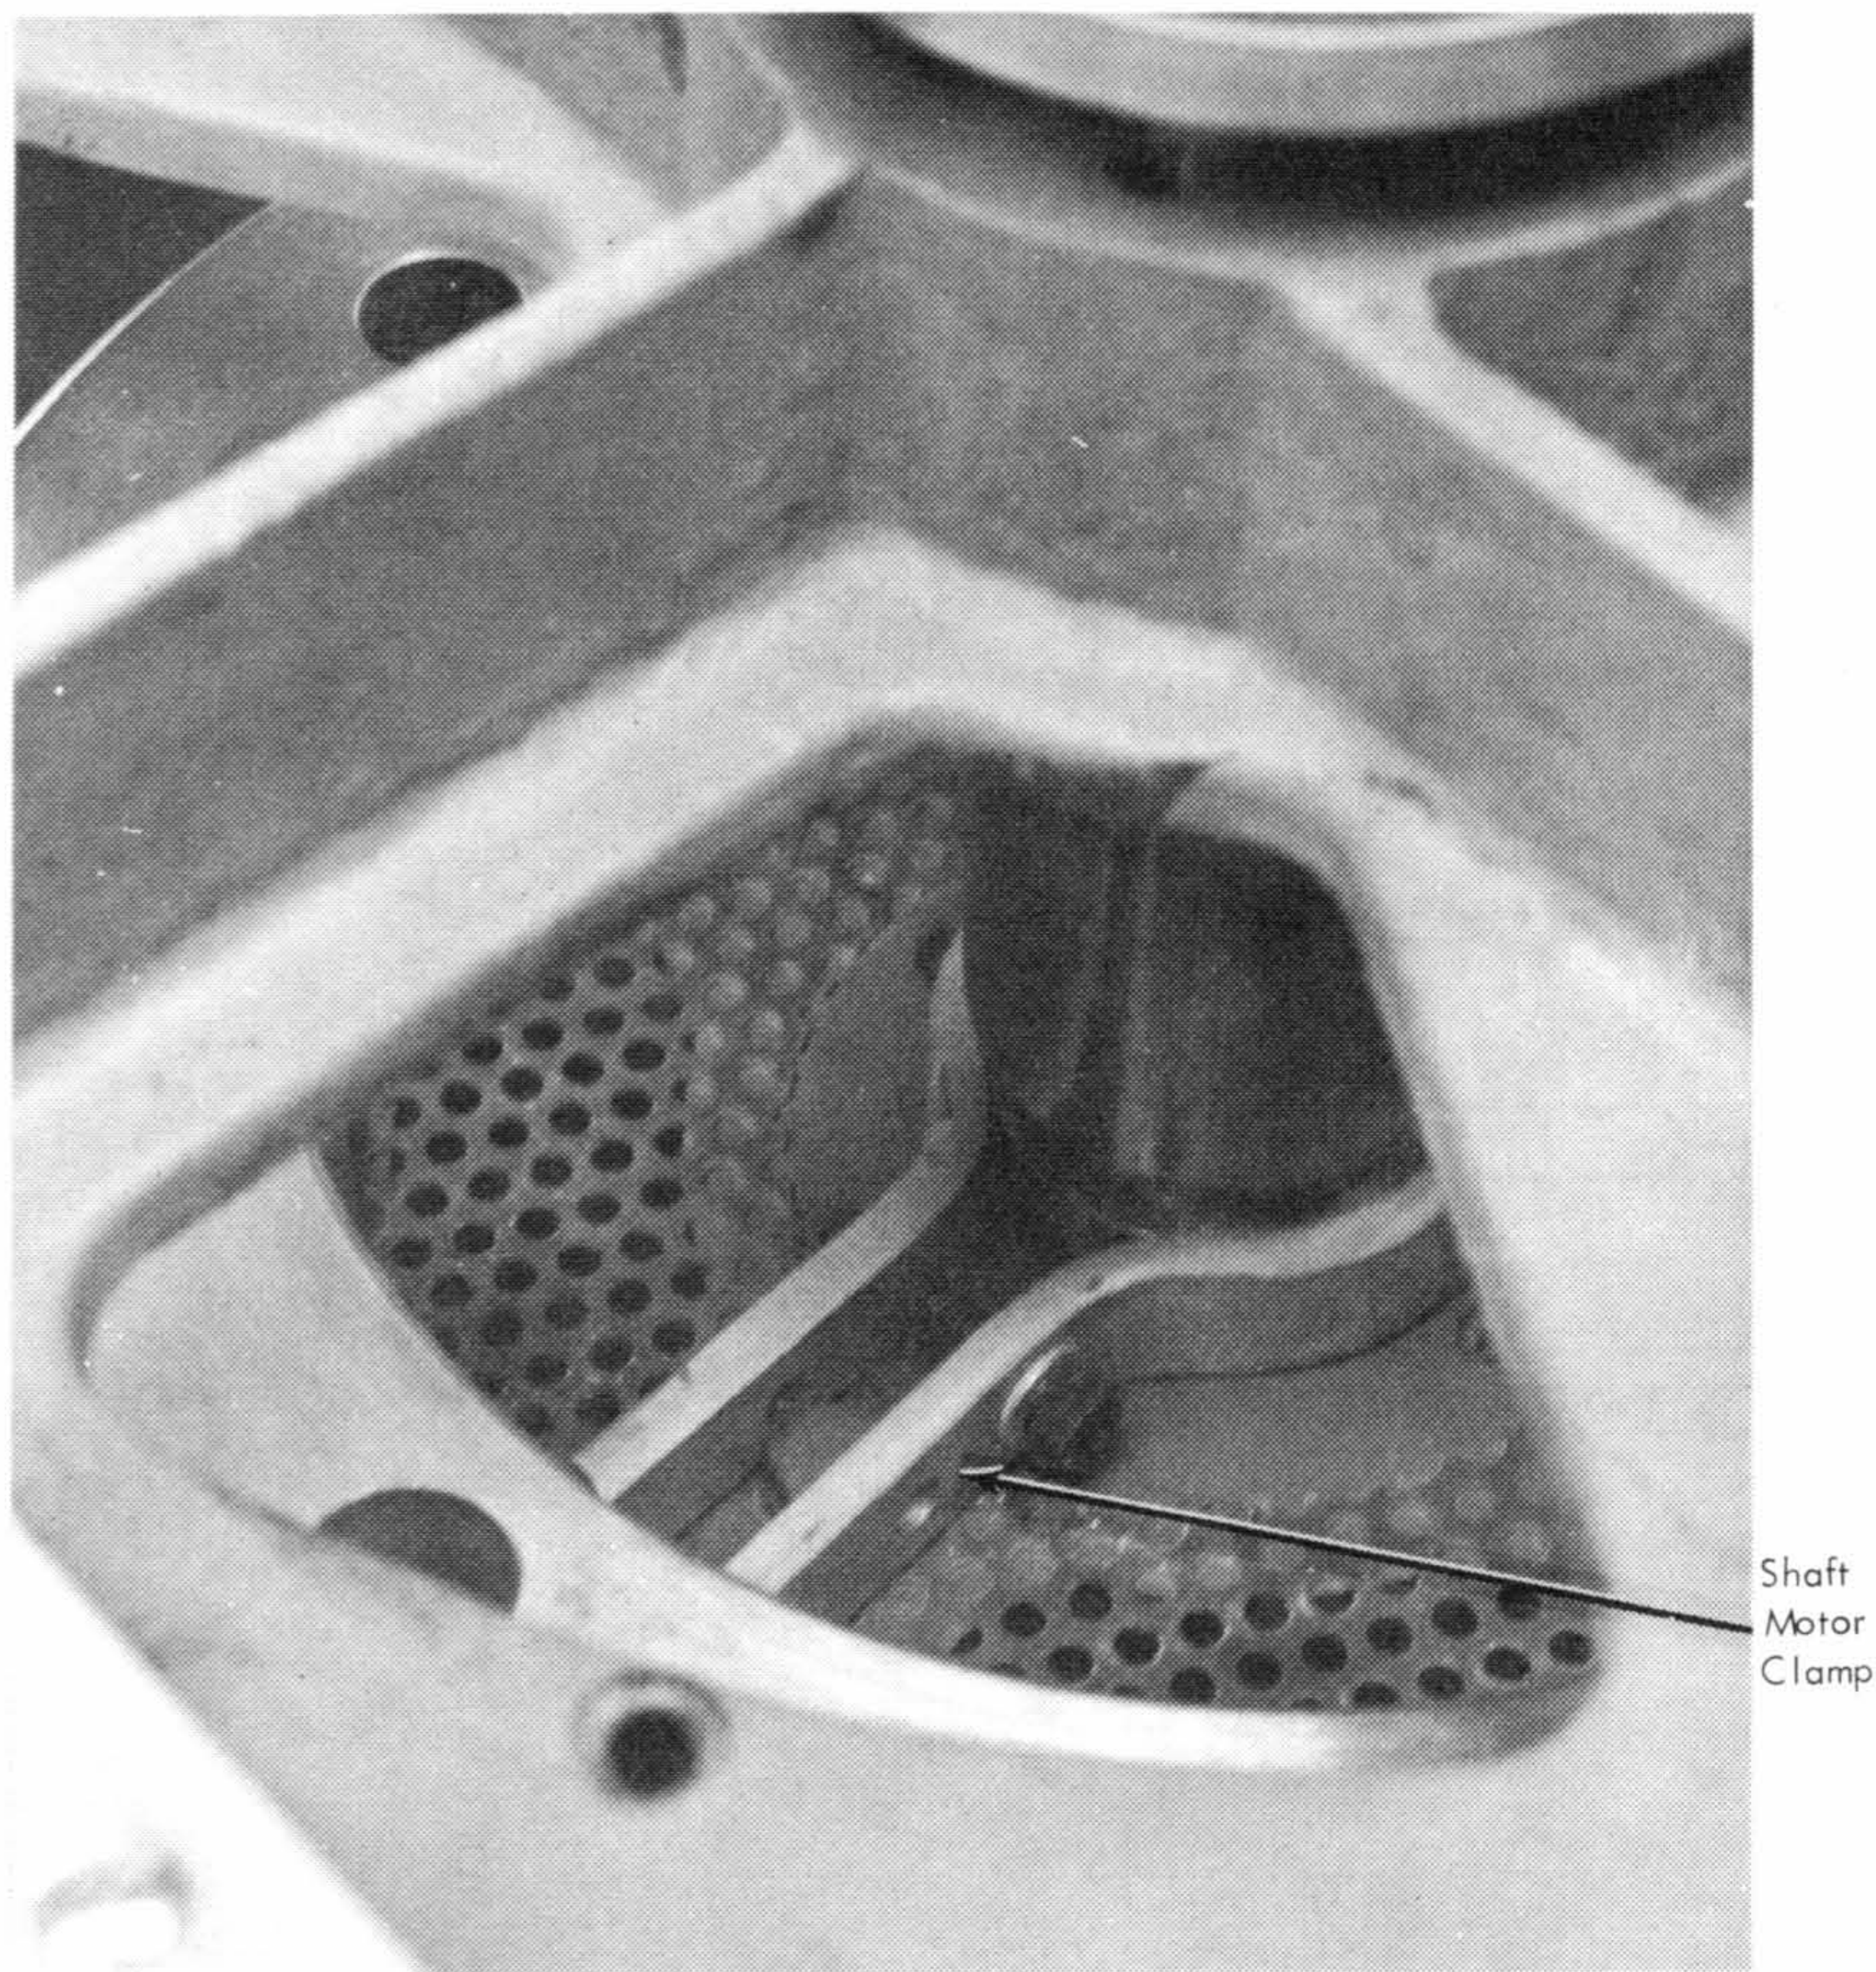

Figure 2-8. Shaft Motor Clamp
9. Lock shaft motor with the shaft motor clamp to keep disks from rotating during the disk scribing operation (Figure 2-8).